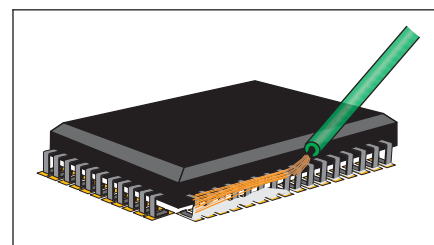

Figure 1 Apply flux
4. Apply flux to the bridged leads. (See Figure 1.)